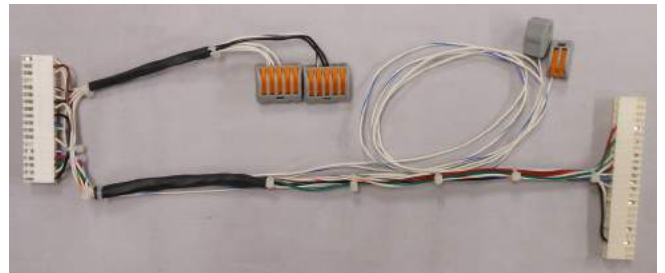
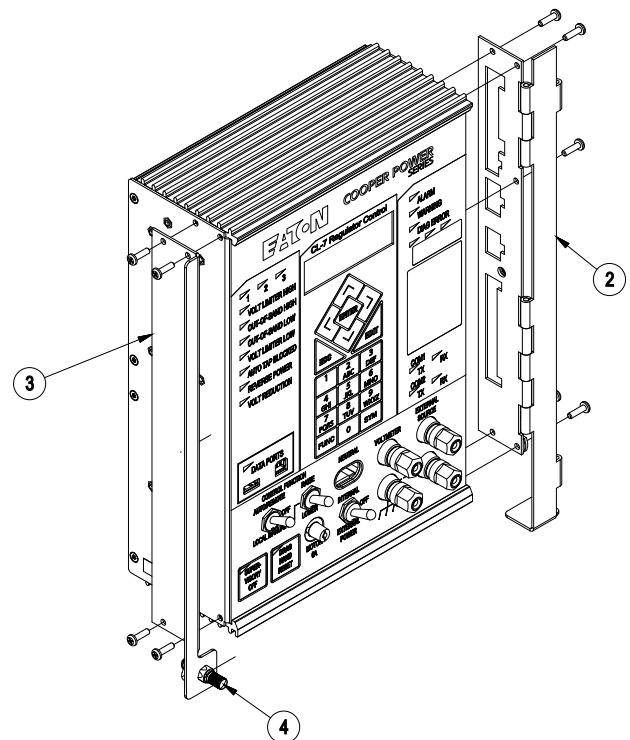

Figure 34. Item 1, the General Electric pin-terminal wiring harness for the CL-7 control
Figure 36. Installing hinge and bracket assemblies
Note: If the General Electric pin-terminal wiring harness (Figure 34), hinge bracket and latch bracket (Figure 36) have already been installed on the new CL-7 control, proceed to **Step 12**.
Note: The GE harness may be equipped with two wires colored white and white/blue with two-terminal connectors as shown in Figure 34. The wires are for connection to the CL-7 control general purpose inputs (GPIs). The wires can be used for analog voltage reduction or other programmable functionality. See document MN225003EN, *CL-7 Voltage Regulator Control Installation, Operation, and Maintenance Instructions* for more information on the GPIs.
4. Install the General Electric latch bracket (Item 3) using the screws retained from the last step. See Figure 36.
- Install the General Electric hinge bracket on the right side of the control using the screws retained from **Step 5** and the last step. See **Figure 36**.